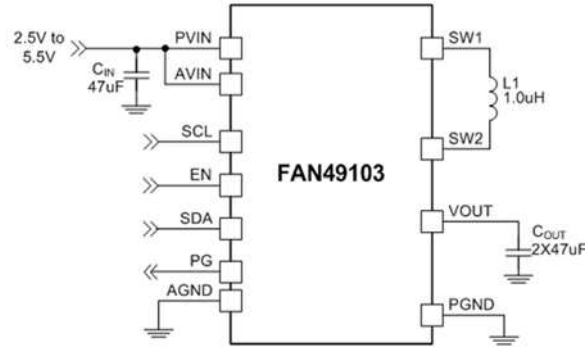

Figure 1. Typical Application
**SYSTEM CHARACTERISTICS** The following table is verified by design and bench test while using circuit of Figure 1 with the following external components: L = 1.0  $\mu$ H, DFE201612E-1R0M (TOKO), CIN = 47  $\mu$ F, COUT = 2 x 47  $\mu$ F, 0603 (1608 metric) CL10A476MQ8NZNE (SEMCO). Typical values are at TA = 25°C, PVIN = AVIN = VEN = 3.6 V, VOUT = 3.4 V. These parameters are not verified in production.